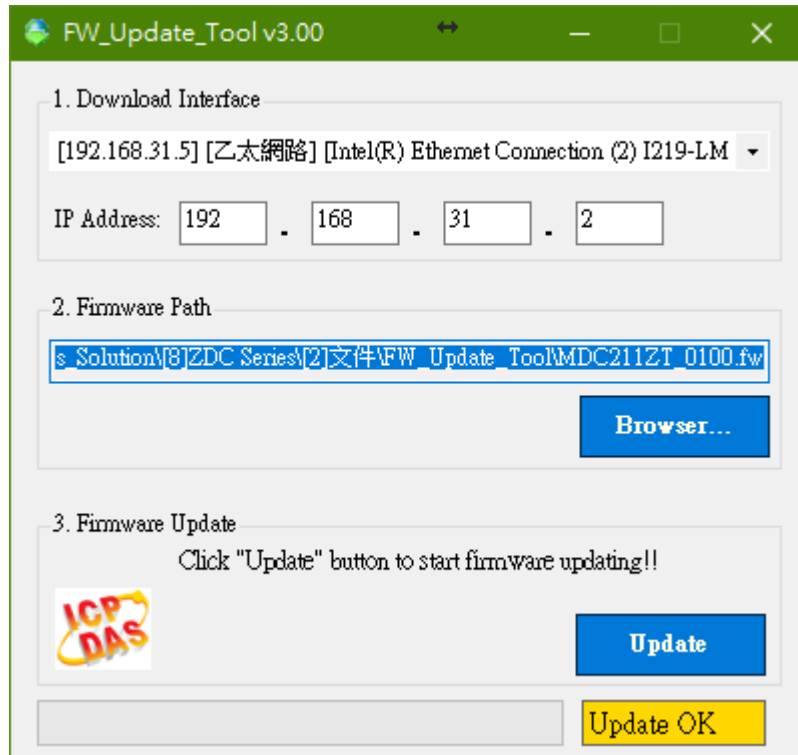

Figure 5.3 FW_Update_Tool firmware update steps
(2) Short the FW with P.GND of MDC-211-ZT and turn on the power. When the six LEDs of MDC-211-ZT turn blinking alternately, the MDC-211-ZT is successfully entered the firmware updating mode.
(3) Execute "FW_Update_Tool.exe" with the administrator privileges (👤) and follow the steps as Figure 5.3: